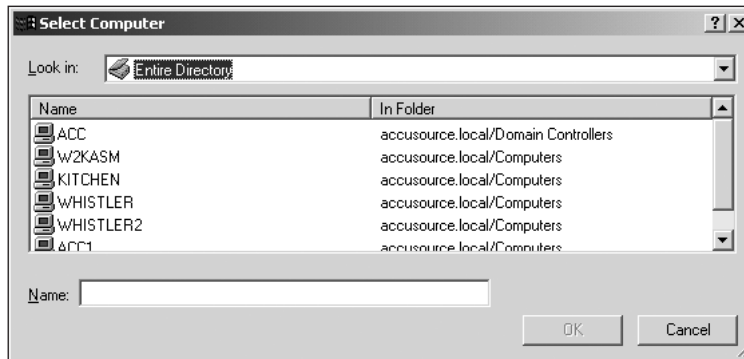

Figure 12-10 Select the computer that you want to remotely administer
4. Select the computer of your choice from the interface shown in Figure 12-10, and click OK.